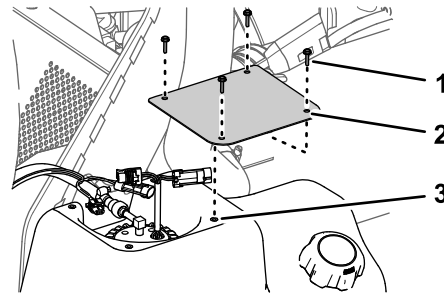

Figure 115
2. At the fuel tank, remove the 4 screws (#10 x 3/4 inch) that secure the cover to the top of the fuel tank, and remove the cover (Figure 115).